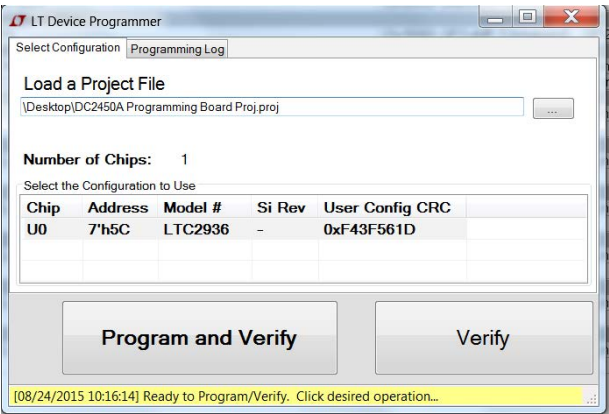
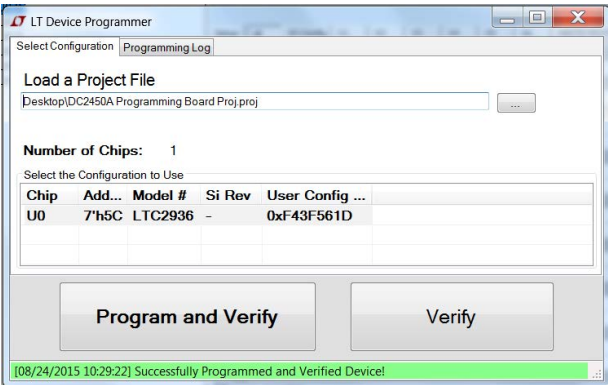

Figure 10. Device Programming Utility.
Figure 11. Programmed and Verified Device
8. Click the “Program and Verify” button (see Figure 10) and wait for the process to complete. After the process is complete, you will see “Successfully Programmed and Verified Device”, in the status bar at the bottom. See Figure 11.